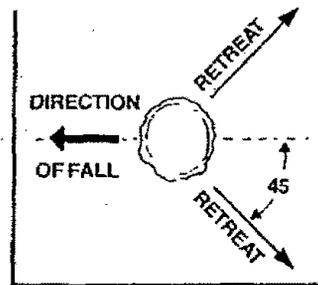

Figure 24
- Plan a clear retreat path to the rear and diagonal to the line of fall. Figure 24.
If saw becomes pinched or hung in a log, don't try to force it out. You could lose control of the saw resulting in personal injury and/or damage to the saw. Stop the saw and drive a wedge of plastic or wood into the cut until saw can be removed easily. Figure 24. Restart the saw and carefully reenter the cut. Do not use a metal wedge to avoid kickback and chain damage.